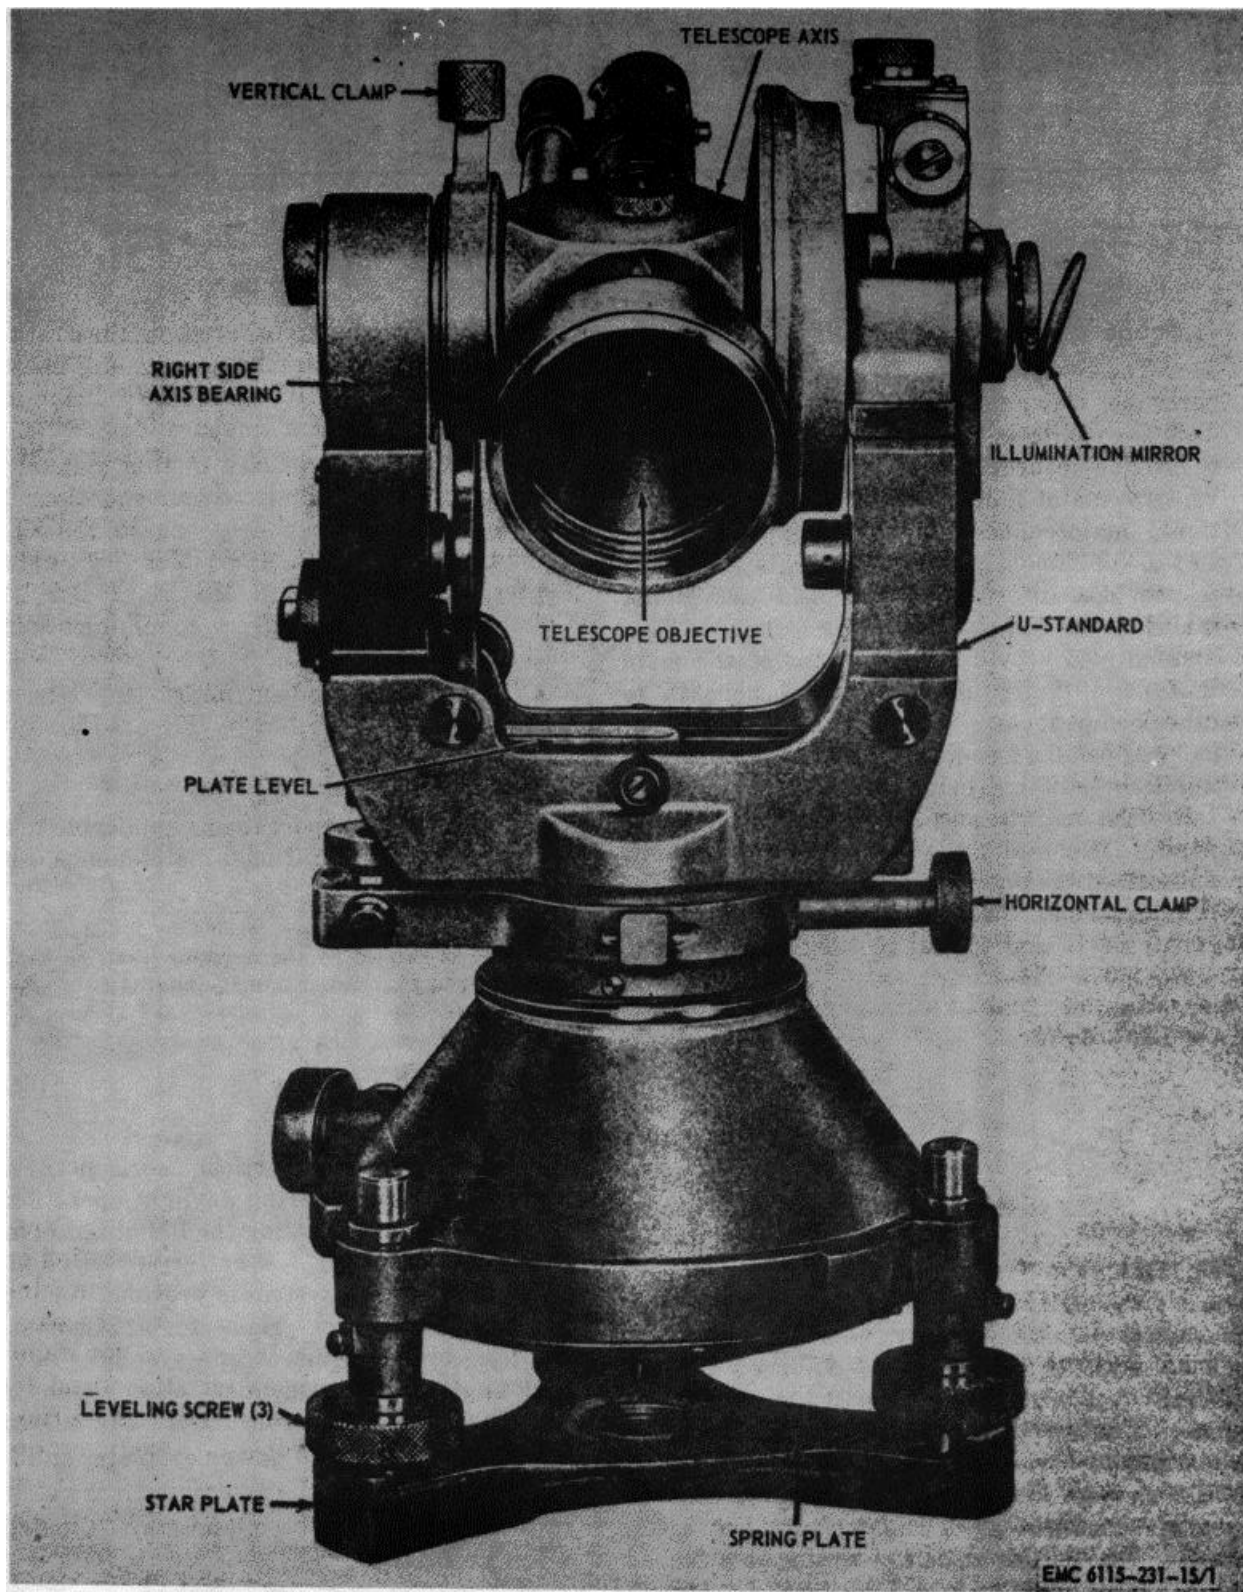
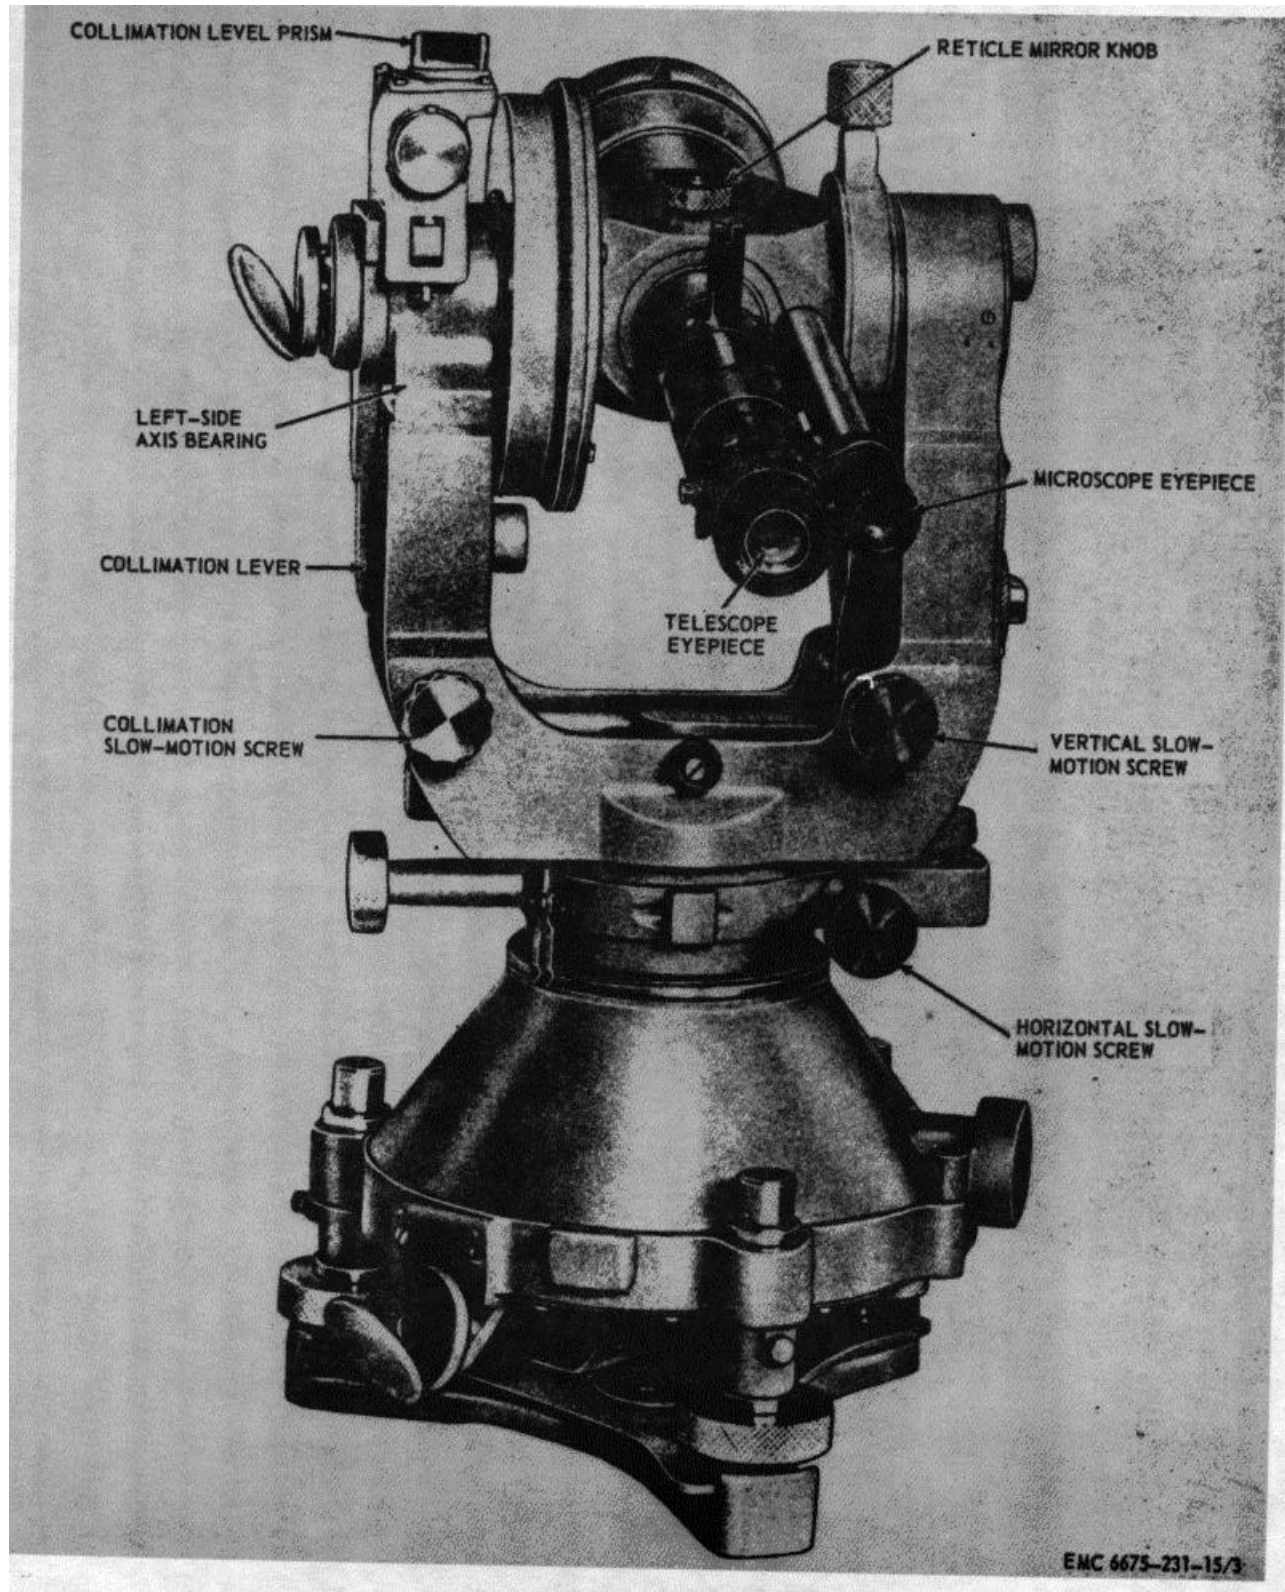
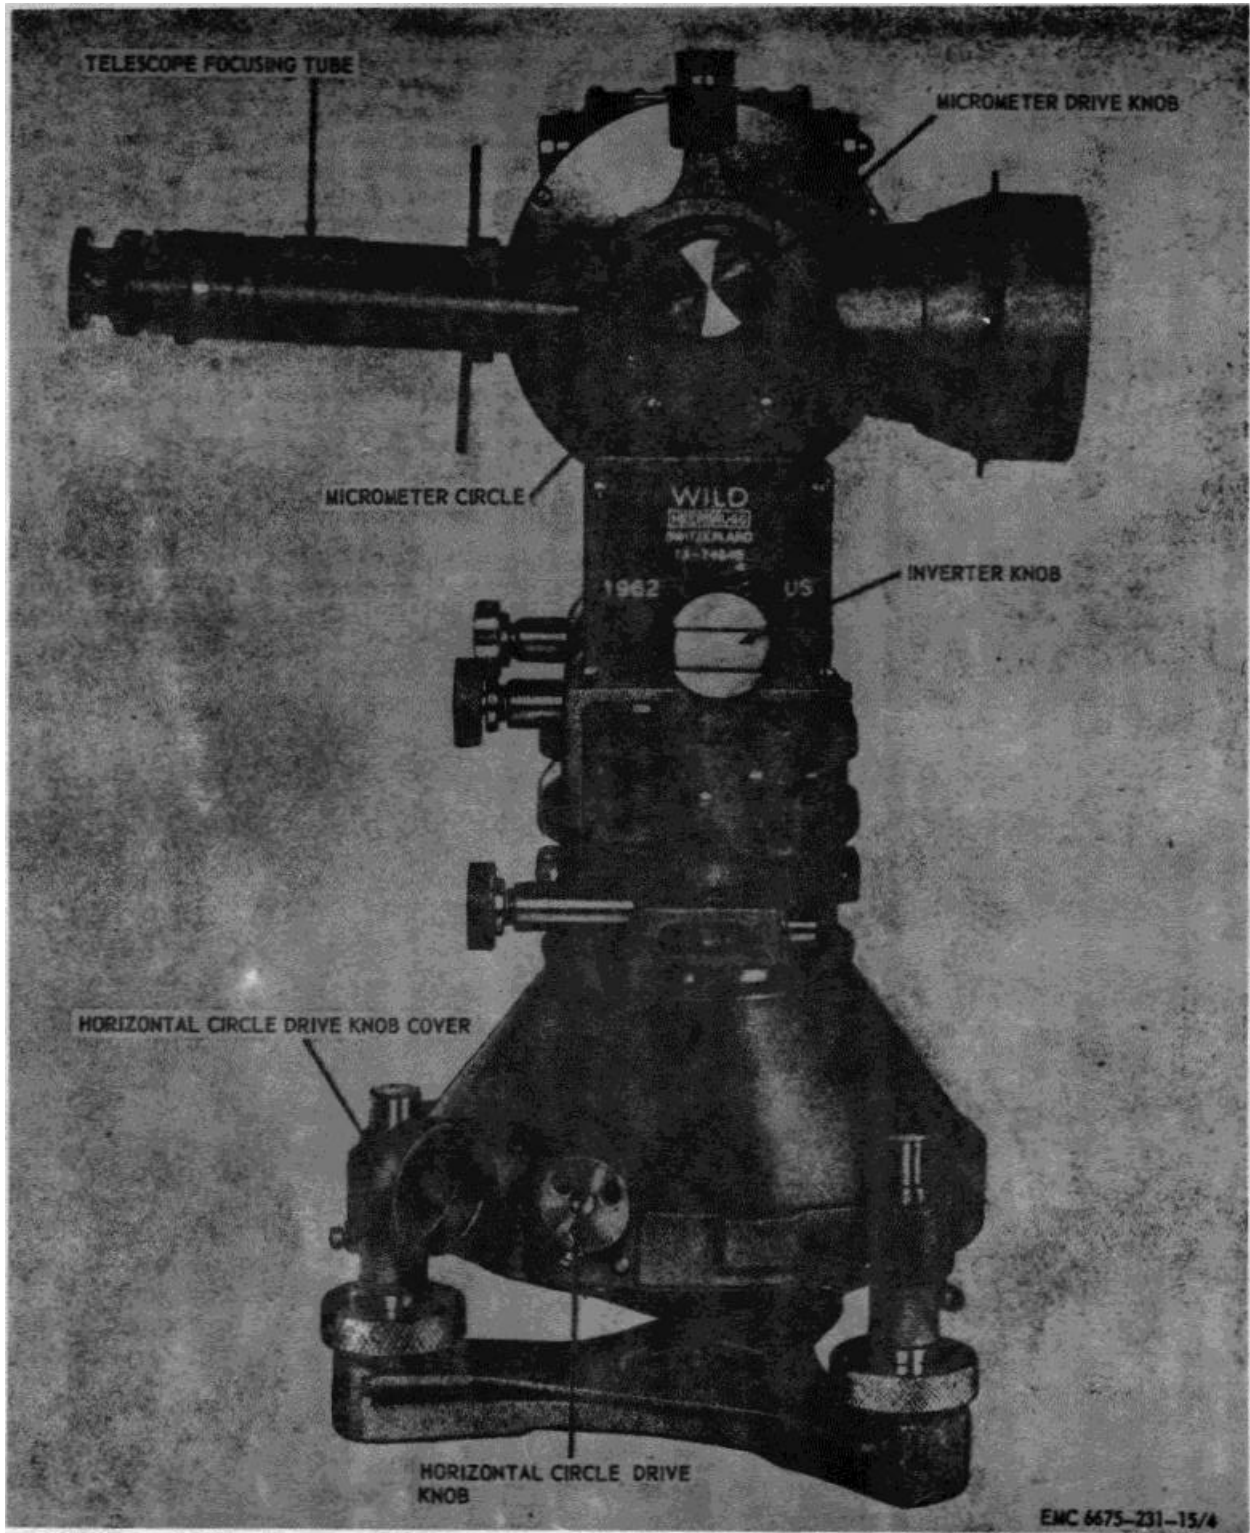

Figure 1. Theodolite, front view.
Figure 3. Theodolite, rear view.
Figure 4. Theodolite, right side view.
The Wild Heerbrugg Model T-3 Theodolite (figs. 1 through 4) is a precision, directional type surveying and tracking instrument. It has both vertical and horizontal circle scales, calibrated in degrees for reading the value of angles. Such readings are observed through the microscope eyepiece (fig. 3). A micrometer circle (fig. 4) is provided for the interpolation of angle value readings to 2/10 second degree accuracy. The horizontal circle housing contains the 3 leveling screws (fig. 1) to which a star plate (fig. 1) for tripod mounting is attached.
Illumination of the vertical, horizontal, and micrometer circles during daylight operation is accomplished by adjusting the illumination mirrors (figs. 1 and 2). A battery-powered electrical illumination system is provided for night operation. Eyepiece prisms for attachment to the telescope and microscope eyepieces during high-angle and astronomical observations are contained in the accessory case. The telescope is equipped with a 30-power eyepiece, optional eyepieces of 24 and 40 power, which are stowed in the carrying case base, and may be installed when necessary.
- (1) Visually inspect the theodolite for broken or missing parts, cracked or scratched lens and mirrors, loose or missing hardware, and other indications of damage.
- (2) Rotate the three leveling screws (fig. 1) and inspect for rough travel and instability.
- (3) Inspect the vertical clamp (fig. 1) and horizontal clamp (fig. 1) for improper operation.
- (4) Inspect the horizontal slow-motion screw (fig. 3), vertical slow-motion screw (fig. 3), and combination slow motion screw (fig. 3) for improper operation.
- (5) Inspect the reticle mirror knob (fig. 3), micrometer drive knob (fig. 4), and inverter knob (fig. 4) for smooth operation throughout their full travel.
- (6) Inspect the telescope focusing tube (fig. 4), telescope eyepiece (fig. 3), and microscope eyepiece (fig. 3) for smooth operation throughout their full travel.